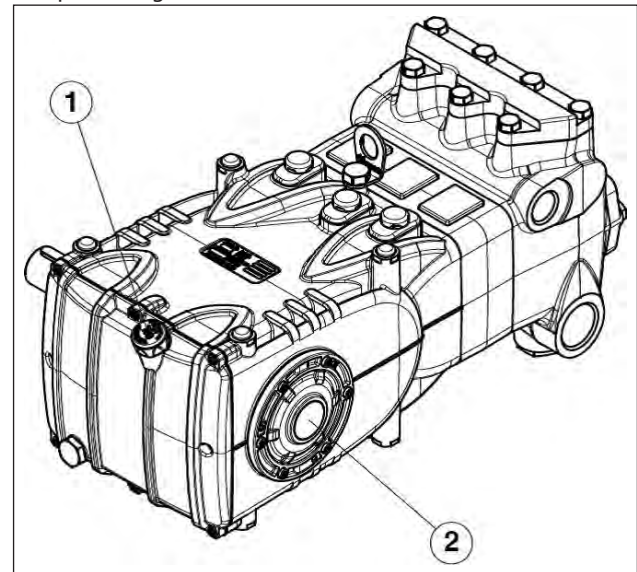

Fig. 13
5. Oil in the pump casing is at level, verified with a dipstick (pos. ①, Fig. 13) and exceptionally with a level indicator (pos. ②, Fig. 13).